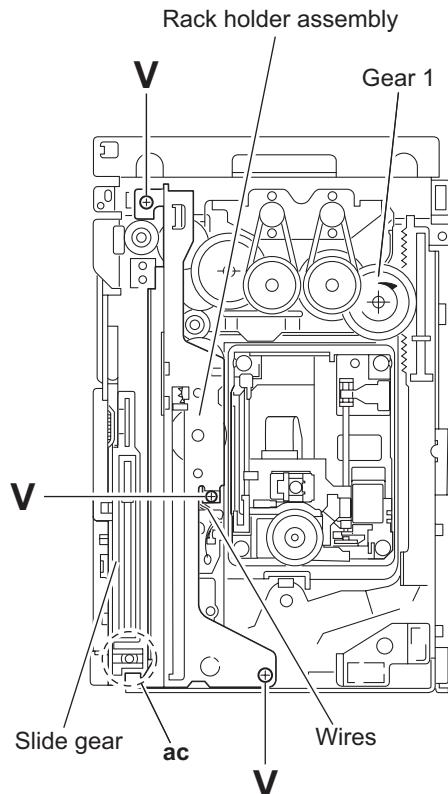

Fig.32
### 3.2.14 Removing the rack holder assembly and sensor assembly (See Figs.32 to 38)
If the slide gear of the DVD changer mechanism assembly places at joint **ac** of the rack holder assembly, turn the gear 1 counterclockwise to move the slide gear in the direction of the arrow. Then Remove the rack holder assembly. (See Figs.32 and 33.)
- Remove the three screws **V** attaching the rack holder assembly and release joint **ac** from the notch ad. (See Figs.32 and 34.)
When reattaching the rack holder assembly, do not nip the wires extending from the sensor assembly. (See Fig.32.)
- When reattaching the rack holder assembly, turn the gear 1 clockwise to move the slide gear and slide lever inside the body in the direction of the arrow. (See Figs.32 and 38.)